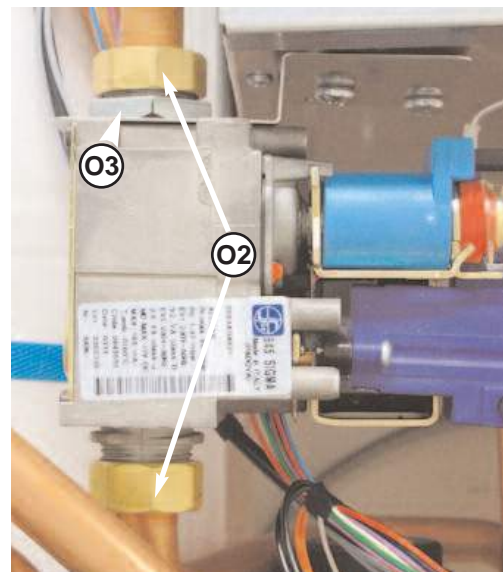

Fig. 18.45
4. Undo the 2 gas pipe nuts "O2" (spanner 30) and the nut "O3" securing the gas valve from the combustion chamber (see Fig.18.45);